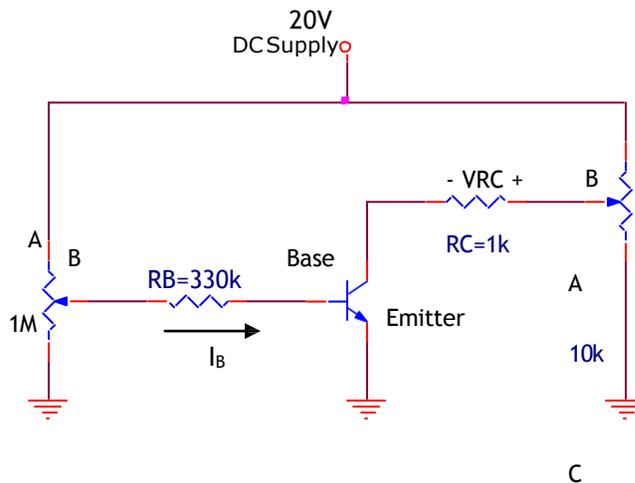

Fig. 4.1
1. Construct the circuit of *Fig. 4.1*. Vary the 1 $\text{M}\Omega$ potentiometer to set $I_B = 10 \mu\text{A}$ as in Table 4.1.